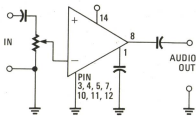

FIG. 10
10. In Fig. 10, pins 3, 4, 5, 7, 10, 11, & 12 of the IC might be used for: